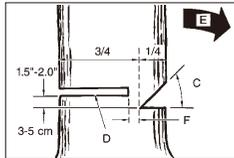

Fig. 11B
Make the felling cut (D) from the other side of the tree and 1.5 - 2.0 inches (3-5 cm) above the edge of the notch (C) (Fig. 11B)